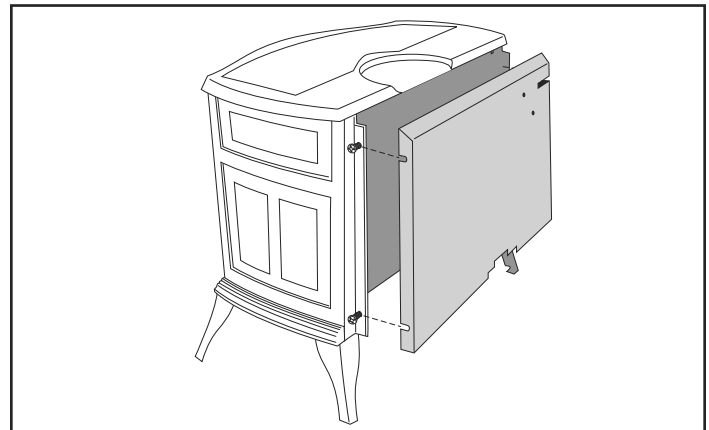

Figure 3.2 - Remove rear shroud.
2. Remove the rear shroud panel (Figure 3.2) and fasten the blower assembly to the firebox back with the two bolts provided. (Figure 3.3)